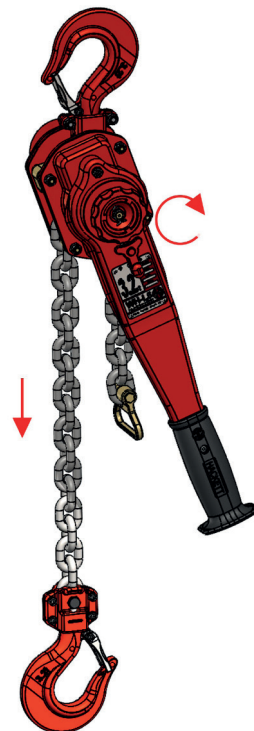

Figure 3
4. To re-engage hold the load chain to prevent chain travel and push the grip ring in with a clockwise motion as shown in *figure 3*.